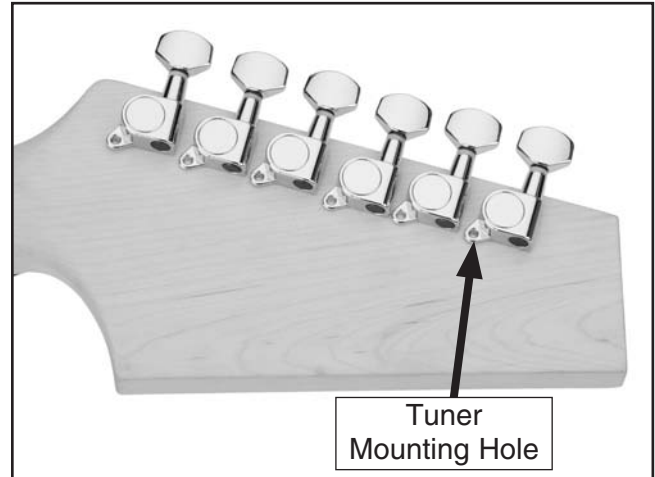

Figure 12. Tuners aligned to edge of headstock.
7. Insert the tuners into the bushings and mount them with the #2 x $\frac{3}{8}$ " screws, as shown in **Figure 12**.